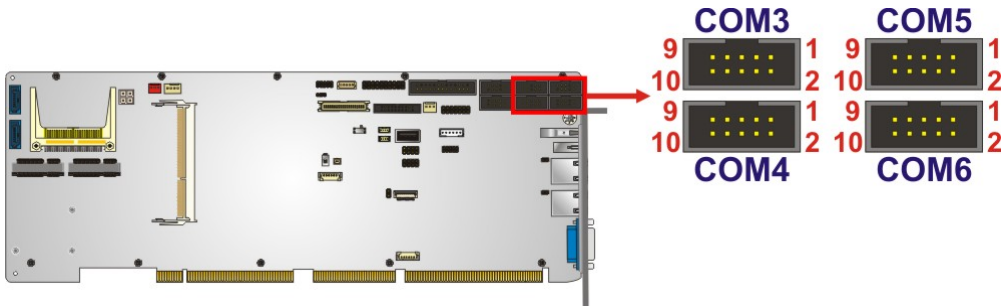

Figure 3-24: RS-232 Serial Port Connector Locations
- CN Location:** See Figure 3-24